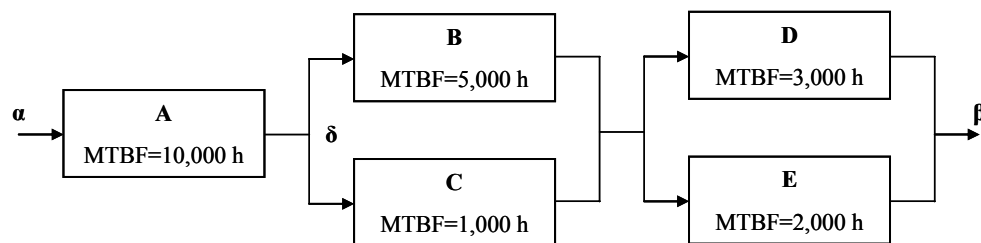

Figure 4
- d. Determine the reliability of the overall system connected between  $\alpha$  and  $\beta$  shown in Figure 4 if it is expected to operate for 2000 hours.
- e. Assuming it is possible to connect a further element F between points  $\delta$  and  $\beta$  on Figure 4, what value of MTBF would element F required to achieve a reliability of 0.5 for 2000 hours of operation?